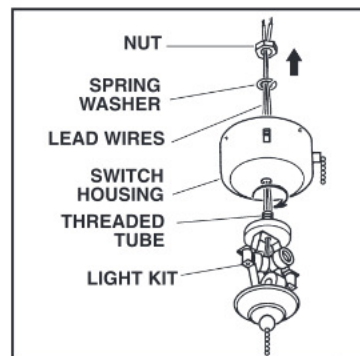

FIG. 18
Step 2. Install the light kit into the switch housing and secure with the spring washer and hex nut provided.(Fig.18).